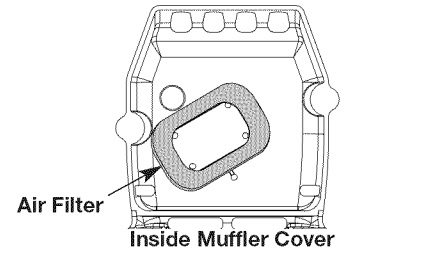

Fig. 14
2. Turn cover over and look inside to locate the air filter. Remove the air filter from inside the air filter/muffler cover (Fig. 14).
6. Replace the air filter inside the air filter/muffler cover (Fig. 14).